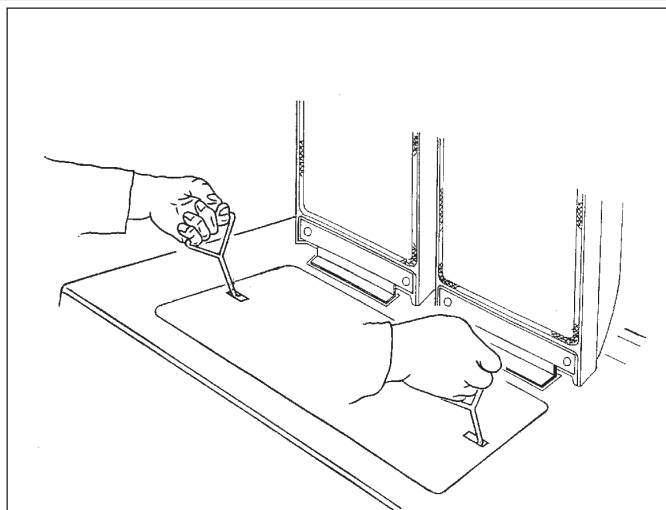
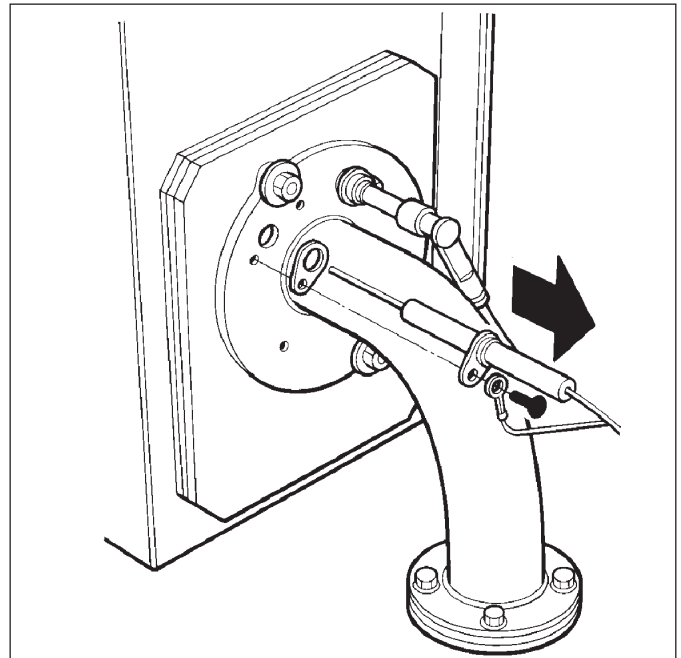

FIG. 1
FIG. 8
Check that CO2 levels are within tolerance see Technical Specification Fig. 1 in the Installation Instructions.
SEE FIG. 1
Check that the CO2/CO levels are within tolerances shown in Fig. 1.
Check that CO2/CO levels are within stated levels (See Fig. 1). If the valve are found to be inconsistent with these, turn the gas valve regulator A (See Fig. 8) in the appropriate direction. Turning clockwise will decrease the CO2; turning anti-clockwise will increase the CO2. Please note that due to the sensitivity of the screw, only small adjustments will be necessary.
Using the method detailed above, run the boiler at its minimum output. Wait for the boiler to stabilise and perform the combustion analysis, check the results against those in the Technical Specification Fig. 1. in the Installation Instructions.
If the valves are found to be inconsistent with these, turn the gas valve regulator B (See Fig. 8) in the appropriate direction. Turning clockwise will increase the CO2; turning anti-clockwise will decrease the CO2. Please note that due to the sensitivity of the screw, only small adjustments will be necessary (1/8 of a turn).
**After completion of calibration, recheck the CO2 at maximum output. It is also advisable to check the gas capacity at the metre against the figures given in the technical specification in Fig. 1.**
SEE FIG. 8